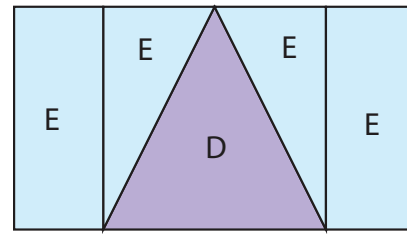

Fig. 26
24. Sew (1) $4 \frac{1}{2}$ " x $10 \frac{1}{2}$ " Fabric E strip to each side of the EDE unit to make (1) Block Five (Fig. 26).